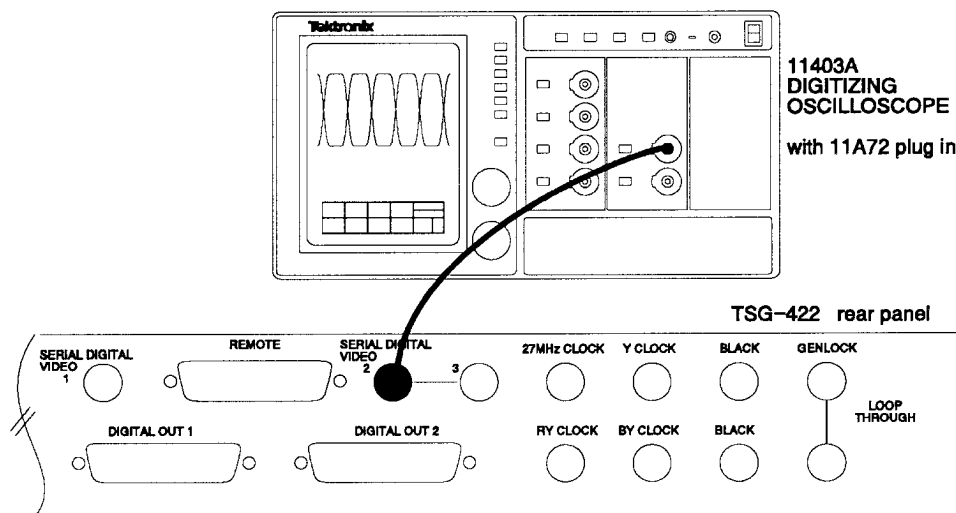

Fig. A-8.
- Connect the equipment as shown in Fig. A-8.
- a. Connect the equipment as shown in Fig. A-8.